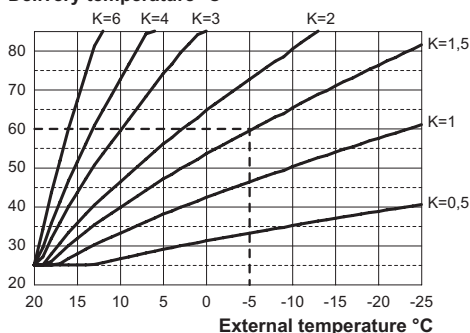
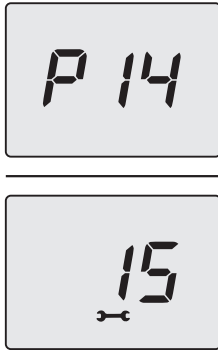

Figure 5.32
Figure 5.38
If the remote control **IS CONNECTED** to the boiler (optional), refer to Figure 5.32.
When installing the external sensor, this parameter must be set based on the efficiency of the heating system to optimise the delivery temperature (Figure 5.32).
E.g. To achieve a heating system delivery temperature of 60°C with an outdoor temperature of -5°C, set a K of 1.5 (dashed line in Figure 5.32).
- Pressing the 13 or 15 keys, it is possible to change the value of parameter 14 from a minimum of **00** to a maximum of **60** based on the selected curve of the K coefficient in Figure 5.32 (the value shown on the display, in Figure 5.38, corresponds to **K = 1.5**).